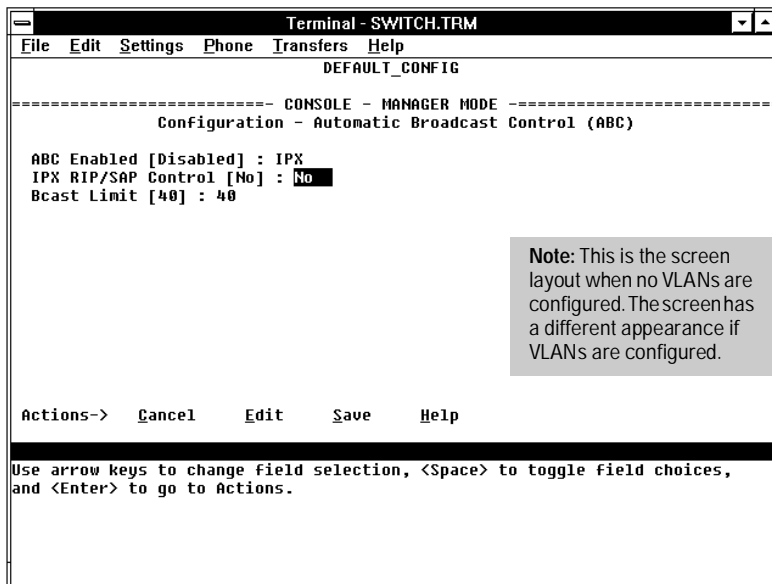

Figure 7-22. ABC Enabled With IPX Option (No VLANs Configured)
- If you enabled ABC for IPX (figure 7-22, below):